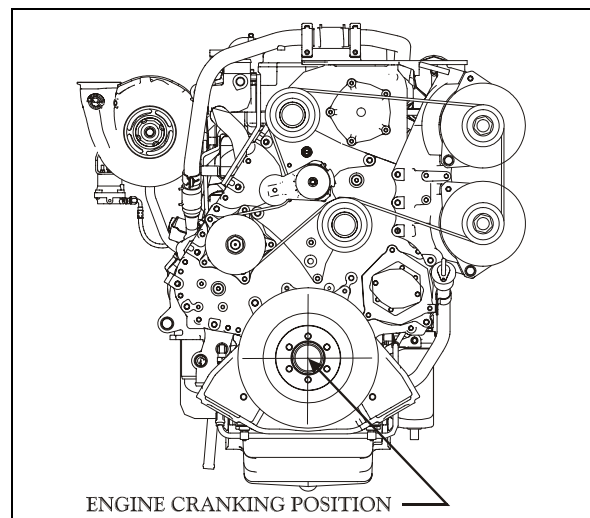

FIGURE 10: ENGINE CRANKING POSITION
14. Remove the access plug from the flywheel housing on the R.H. side below starter. From access plug, remove the 12 converter-to-flexible plate attaching screws. Cranking the engine to gain access to the attaching screws may be done by turning the crankshaft pulley using a suitable adapter (fig. 10).